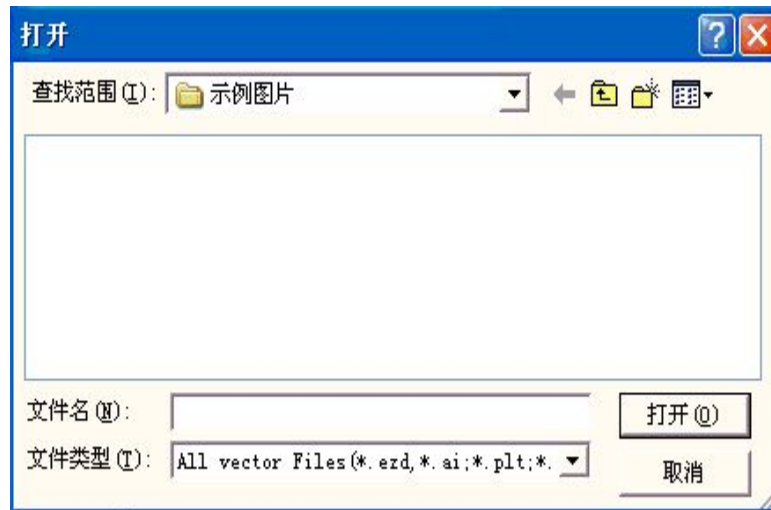

Figure 8-11
**VectorFile:** the vectorfile information show on the globe. Click “” then the dialog box popup shown as Figure 8-11